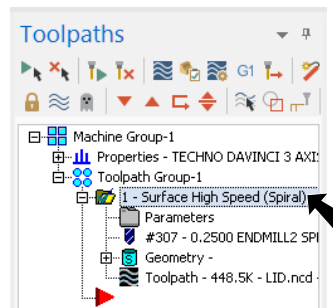

Fig. 69
Step 1. Copy Spiral toolpath in the Toolpaths Manager. To copy, click to select toolpath, **Fig. 69**.